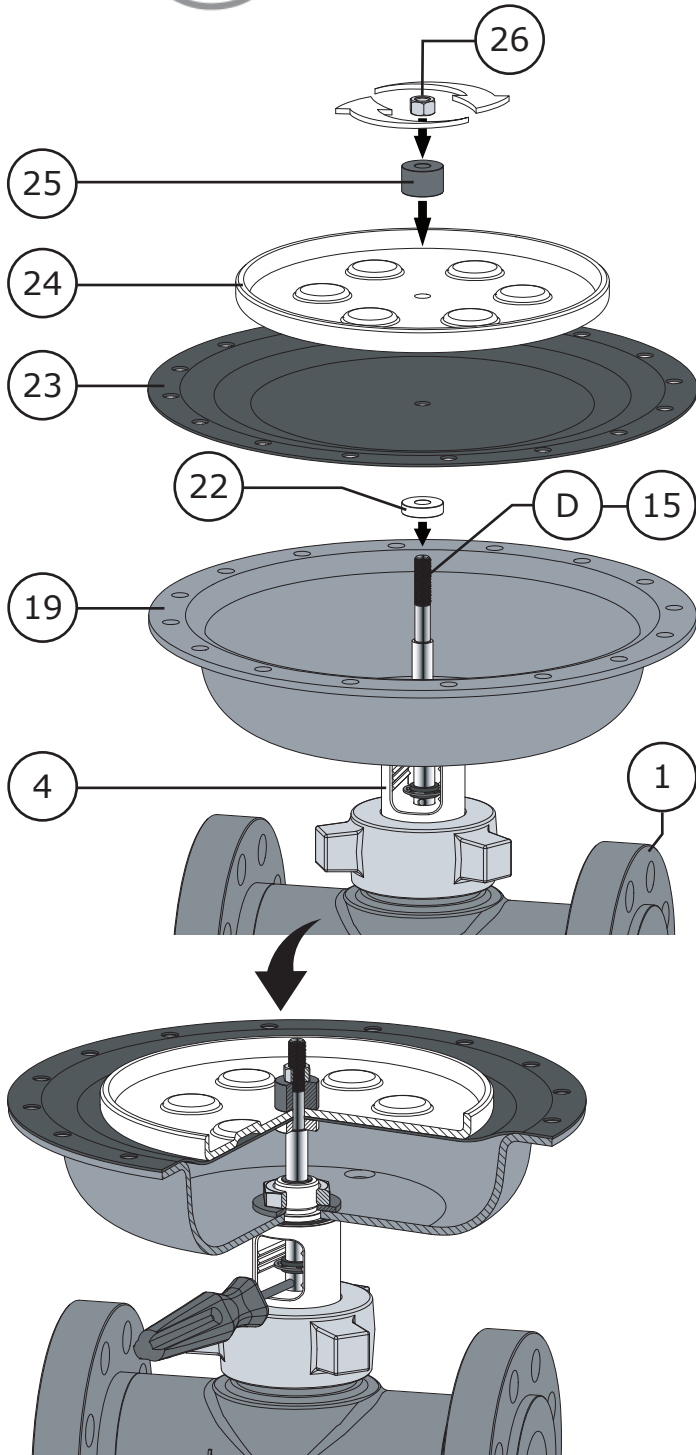

Figure 41 Lower Diaphragm Assembly (Fail Closed)
- 8 Install the diaphragm plate (Key 24) as shown in Figure 41.